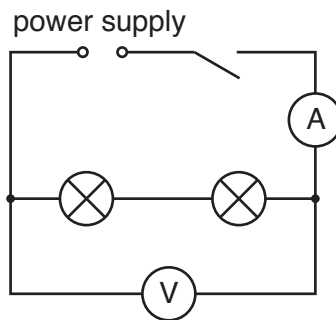

Fig. 2.1
- (ii) Two similar filament lamps, labelled **X** and **Y**, in suitable holders. Any low voltage filament lamps will suffice, provided that they glow when connected as shown in Fig. 2.1.
- (vi) Sufficient connecting leads to construct the circuit shown in Fig. 2.1. See note 3.
1. The components are to be connected by the Supervisor as shown in Fig. 2.1.
Set up the circuit so that it is arranged as shown in Fig. 2.1.